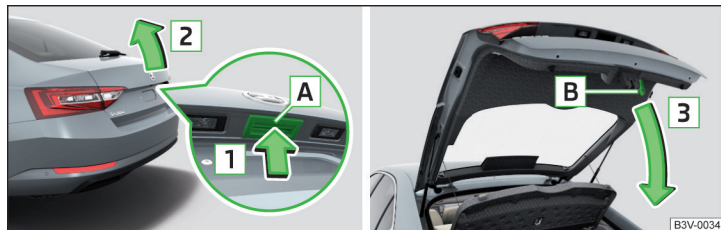

Fig. 37 Opening / closing tailgate
- To open, press the **A** button in the direction of arrow **1** » Fig. 37.
Button **A** » Fig. 37 is deactivated when starting or at a speed of more than 5 km/h. The button is activated again after the vehicle has stopped and a door is opened.
- Button **A** » Fig. 37 on page 56 is deactivated when starting or at a speed of more than 5 km/h. The button is activated again after the vehicle has stopped and a door is opened.